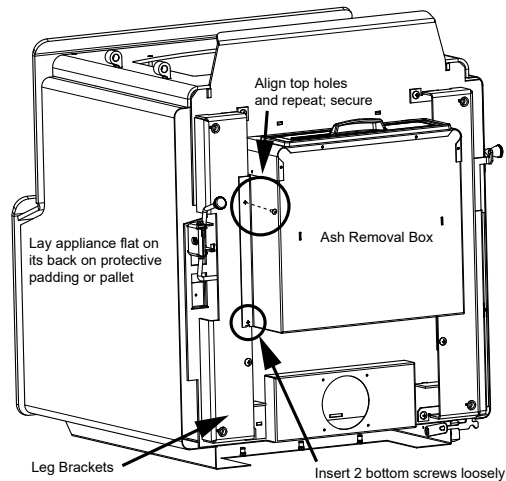

Figure 21.1
- a. Start bottom two bolts through ash drawer, leg brackets and into the bottom of the appliance (**Figure 21.1**).